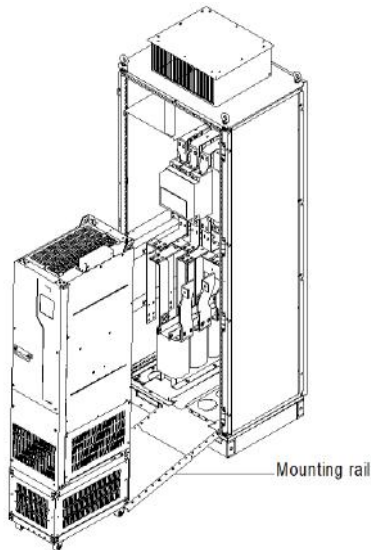
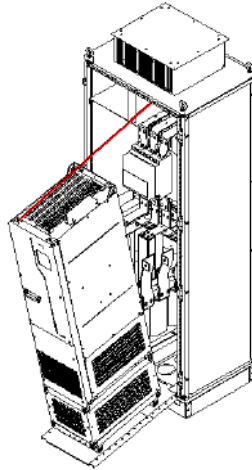

Figure 4-15 Aligning the VFD casters with the mounting rail
Figure 4-16 Pushing the VFD into the cabinet slowly
- ✧ The VFD can be pushed into or out of the cabinet only after the casters are aligned with the rail. To ensure safety, arrange two people to push the VFD into or out of the cabinet. See Figure 4-15 and Figure 4-16.
4	Arrange two people to align the VFD casters with the mounting rail and push the VFD to the cabinet. (See Figure 4-15 and Figure 4-16. Use the auxiliary rope for mounting to prevent the VFD from side tipping during the push-in or push-out.)